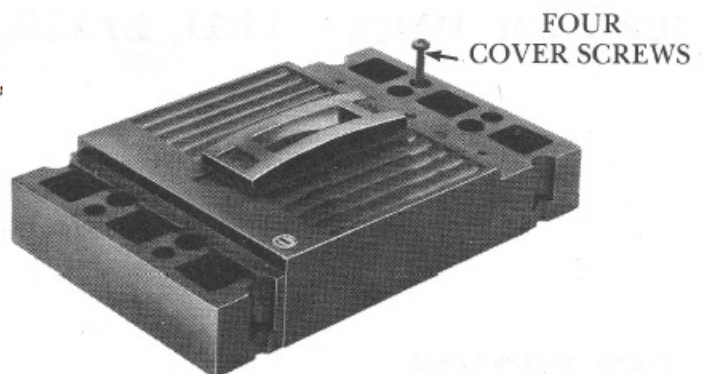
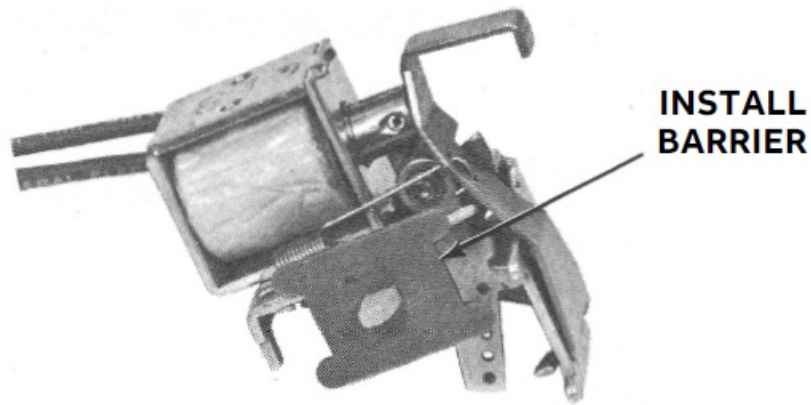

Figure 2.
Figure 8.
Remove breaker cover by removing cover screws as shown in Figure 2. (Care must be taken when opening the TB1 as the button shown in Figure 8 may pop out.) Tar must be removed and discarded to gain access to screw shown in Figure 2. Remove and save plastic handle.
- Note that on TB1 breakers the second barrier shown in Figures 8 and 9 must be installed